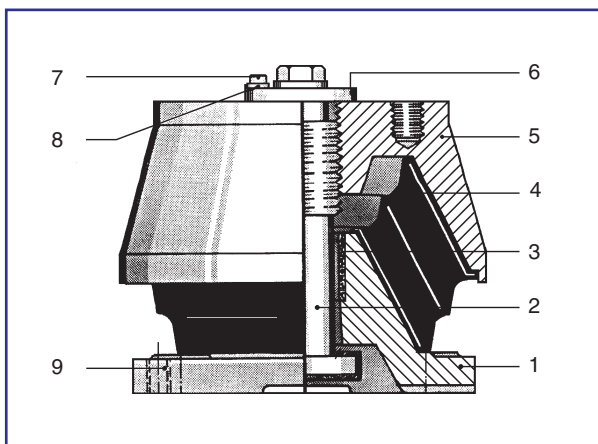

Fig 1 Conical element
- 1) Fit the conical elements to the bracket of the base frame by means of four bolts screwed into the tapped holes on the top casting (5) see fig 1.
- 2) Remove fixing bolt (7), spring washer (8) and top lock ring (6) from the conical element, see fig 1.
- 8) Turn the internal buffer (2), see fig 1, to check that it can be moved freely.
- 9) Care must be taken, during levelling of the installation, to ensure that individual mountings are not overloaded. The variation in laden height should not exceed 2 mm and should ideally be less. The laden height can be measured between top and base casting at H, on two sides (see fig 1).